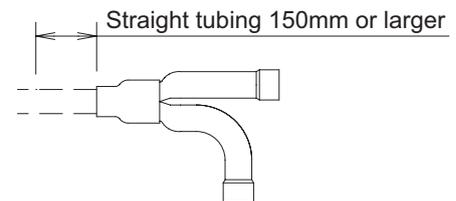

Fig. 2-7
- For branching tubes, install 150mm or larger (including reducer) straight tubing up to the point where the tube branches (or after the point where the tubes join together). (Fig. 2-7)